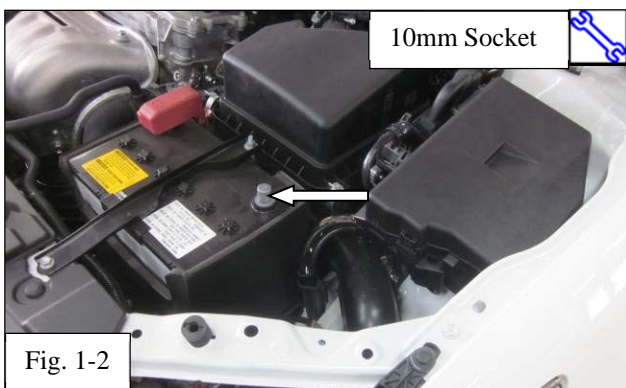

Fig. 1-2
- (f) Loosen the M6 bolt securing the negative battery cable to the battery terminal and remove the cable (Fig. 1-2).